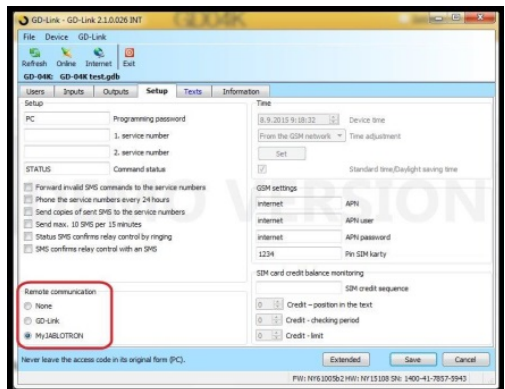

Figure 2
To perform remote access and subsequent settings using the GD-Link SW it is necessary to allow one of the following options. See Settings → Remote communication, and here set GD-Link or MyJABLOTRON (see figure 2).
1. Using GD-Link SW open Remote communication settings and select the parameter MyJABLOTRON (see figure 2).